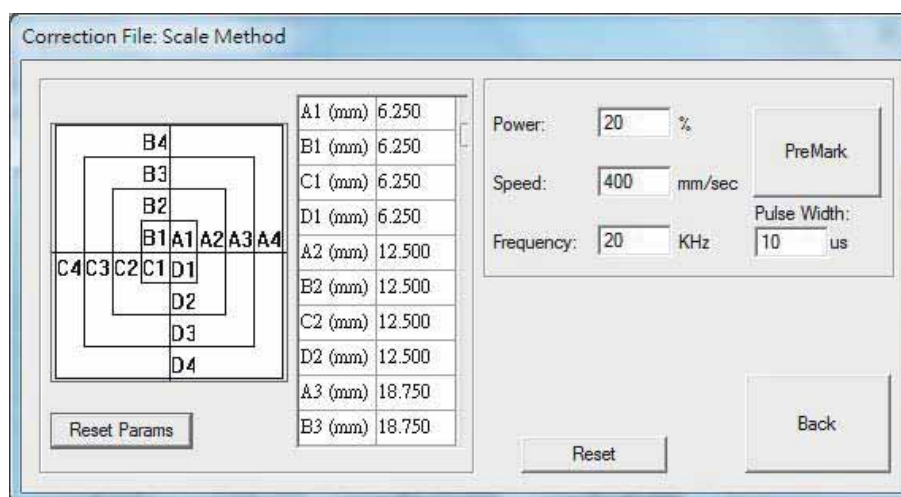

Fig. 1.1.44
- Step 1** Select a Scale (K) value which is close to the voltage ratio of lens and driver. Then select correct rings from the list. The more correct rings users select the better accuracy they will get.
- Step 4** Click the “Input Data” button for next step, see Fig.1.1.44.